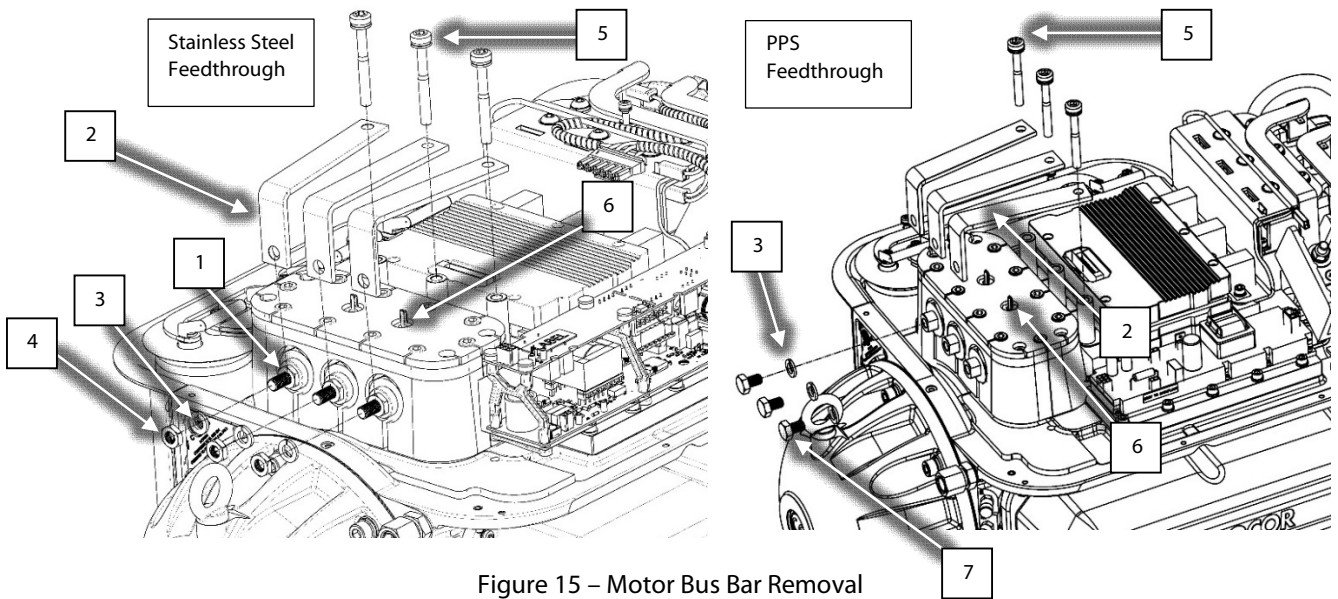

Figure 15 – Motor Bus Bar Removal
25. Disconnect the two (2) connectors from Thermistor Sensor Feedthroughs. Refer to Figure 15 (Motor Bus Bar Removal).
26. To remove the Motor Bus Bar, remove the three (3) M8x70 fasteners attaching the Bus Bars to the Inverter. Then remove the three (3) nuts or screws (depending on the installed feedthrough) from the Motor Bus Bars to the High-Power Feedthroughs. Continue to Step 27 for Stainless Steel Feedthroughs. For PPS (Polyphenylene Sulfide) Feedthroughs, continue to Step 28.
29. Discard the Motor Bus Bars along with the associated fasteners. Refer to Figure 15 (Motor Bus Bar Removal) for examples of both versions.